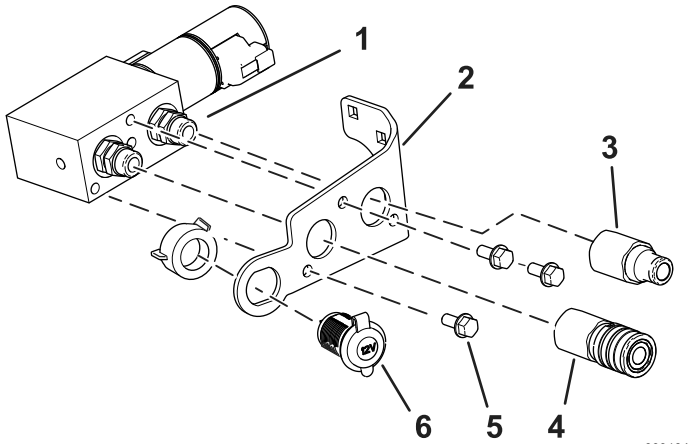

Figure 1
1. Install the male and female hydraulic connectors to the manifold (Figure 1).
2. Remove the plastic nut and use it to connect the 12V port to the bracket (Figure 1).
3. Install the bracket to the manifold with 3 bolts (5/16 x 3/4 inch); refer to Figure 1.